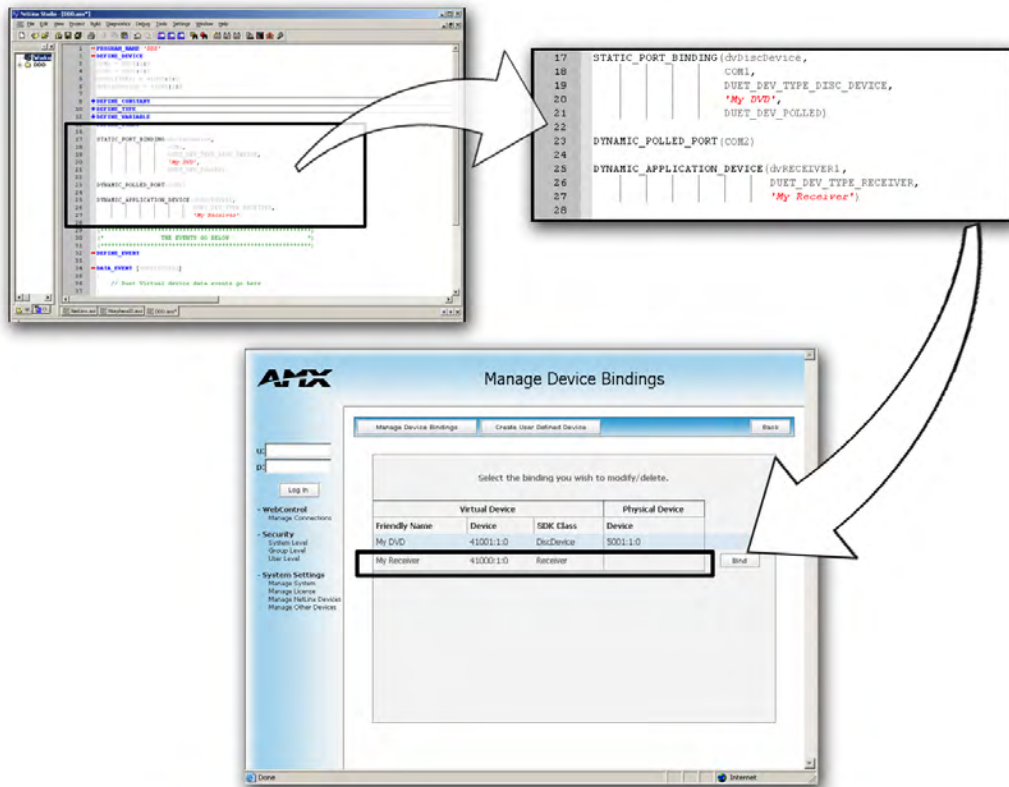
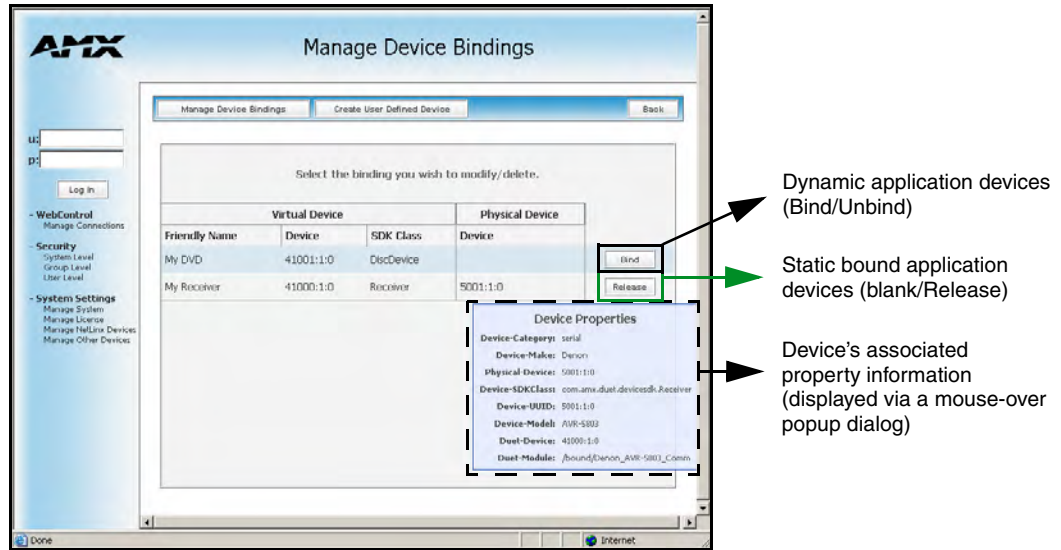

FIG. 80 Manage Device Bindings page - showing the NetLinx code relation
FIG. 81 Manage Device Bindings page
To access this page, click on the **Manage Device Bindings** button (*from within the Manage Other Device page*). This page is used to configure application-defined Duet virtual devices with discovered physical devices. The on-screen table (FIG. 81) displays a list of all application-defined devices (including the defined "friendly name"), the Duet virtual D:P:S, and the associated Duet Device SDK class (indicating the type of the device). This information would have been pre-coded into the NetLinx file currently on the target Master (FIG. 80).
Elements such as `DUET_DEV_TYPE_DISC_DEVICE` and `DUET_DEV_POLLED` are defined within the NetLinx `axi`. The latest version of the NetLinx.`axi` file contains both the new API definitions, as well as the pre-defined constants that are used as some of the API arguments (ex: `DUET_DEV_TYPE_DISC_DEVICE`). Sample code can be found within the `DEFINE_START` section seen in FIG. 80:
Each entry in the table has one of four values appear within the far right of the Manage Device Bindings page (FIG. 81).
- Add the NetLinx `STATIC_PORT_BINDING` API call to the section of the NetLinx program (FIG. 80 on page 122) containing the: Duet Virtual Device D:P:S, the NetLinx physical device D:P:S, the Duet Device type constant, and the associated friendly name string.
- Add the `DYNAMIC_APPLICATION_DEVICE` API call to the section of the NetLinx program (FIG. 80 on page 122) containing the Duet Virtual Device D:P:S, the Duet Device type constant, and the associated friendly name string.